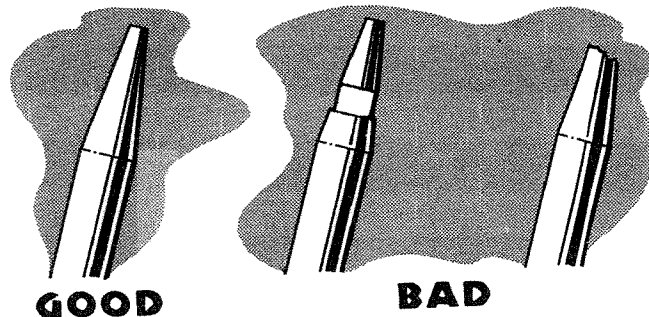

FIGURE 17
1. Adjustment needles - Inspect high and low speed fuel adjustment needles for damage to the threads and to the needle tips resulting from improper adjustment procedures. If the tips are broken or have seating rings because of being screwed into their seats, the needles should be replaced. Always replace a main needle with a main needle and an idle needle with an idle needle. Correct and incorrect needle tips are shown in Figure 17.